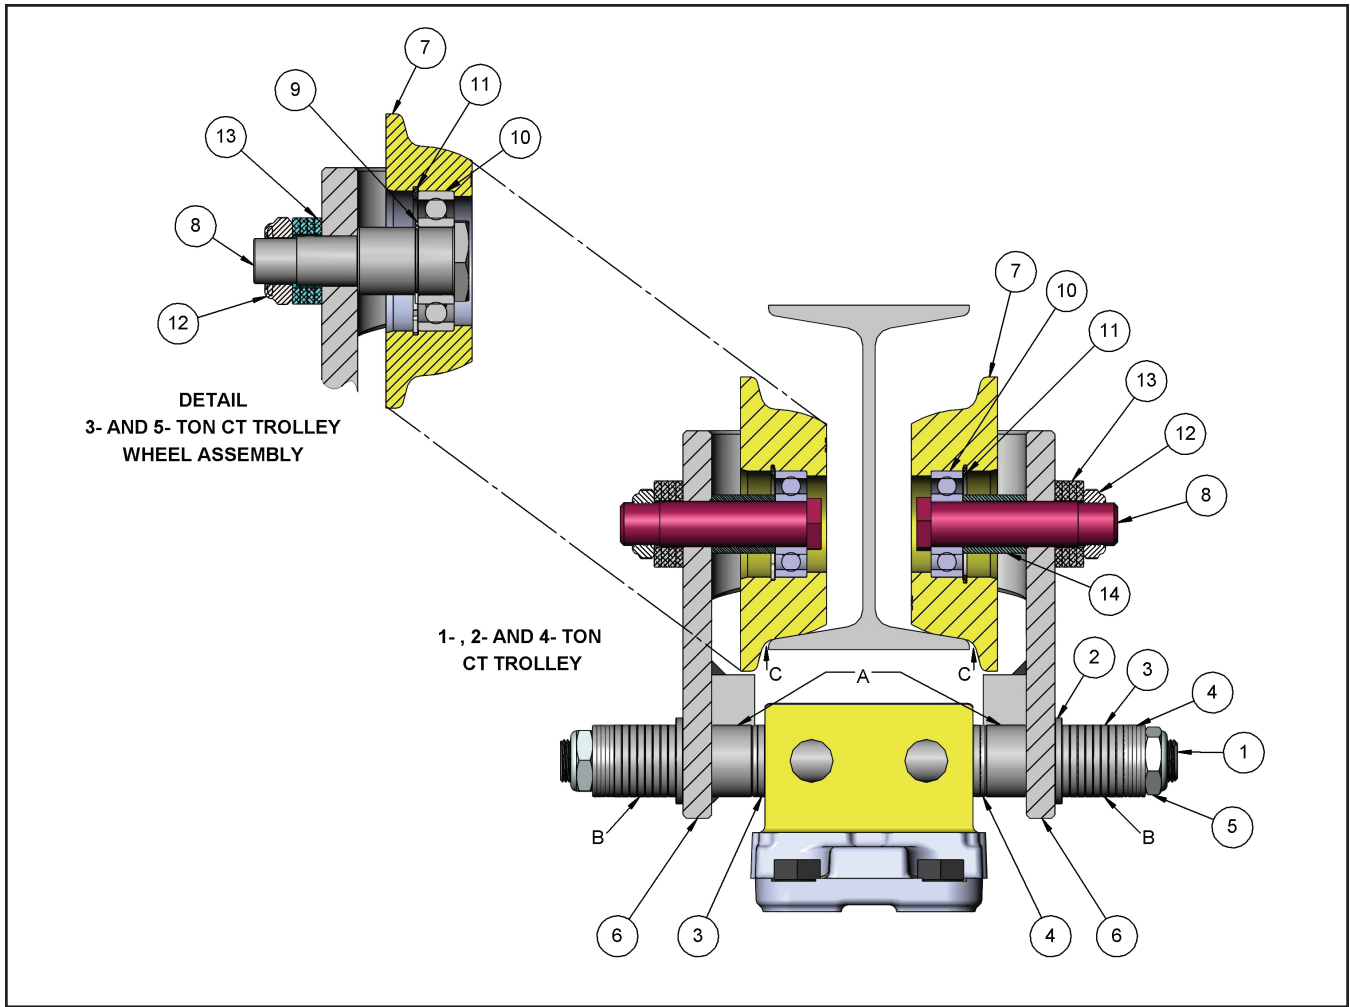

FIGURE 2-1. COFFING CT TROLLEY
- b. See Figure 2-1 for instructions on adjusting lug-mounted plain trolleys.
- a. "I" Beam Adjustment. Adjustment for "I" beam sizes and tolerances is accomplished by locating the spacer washers as shown in Figure 2-1. Normal placement of washers is given in Table 2-2. Refer to Table 2-1 for identification of part names and numbers.